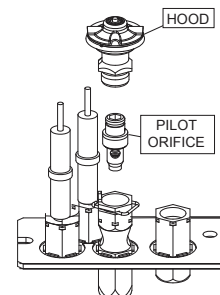

Fig. 3
- 5. Remove the pilot hood from the pilot assembly by pulling vertically. Use an Allen key to unscrew the injector. Replace the pilot injector with the one supplied. Re-assemble the pilot hood onto the assembly, ensuring key position for proper alignment (**Fig. 3**).